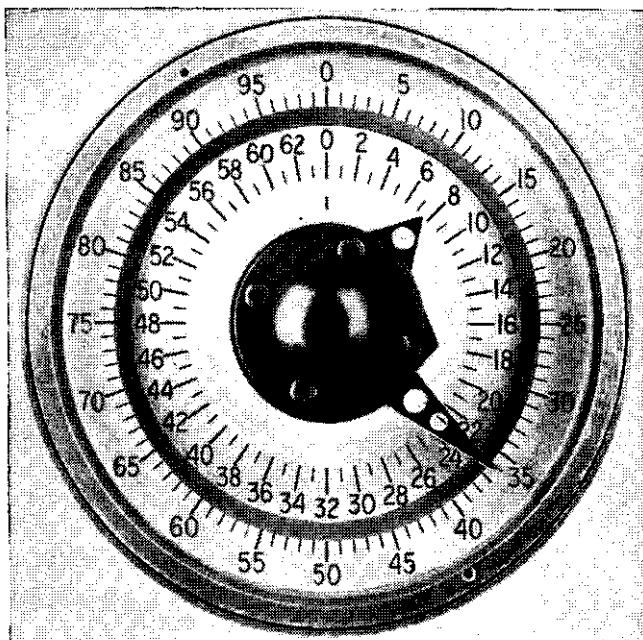

FIGURE 38.—Azimuth indicator.
c. *Azimuth indicator*.—The medium tank M4 is equipped with an azimuth indicator (figs. 38 and 39). This is a dialed instrument with two systems of pointers. The first system indicates the number of mils which the turret has been traversed from the longitudinal axis of the tank. Thus, when the gun points straight forward, the bottom pointer reads zero; at right angles to the right, 1,600; straight to the rear, 3,200; at right angles to the left, 4,800. The second system (top set of pointers) can be set at zero for any position of the gun and thereafter reads the number of mils which the gun has been traversed right or left from this position.